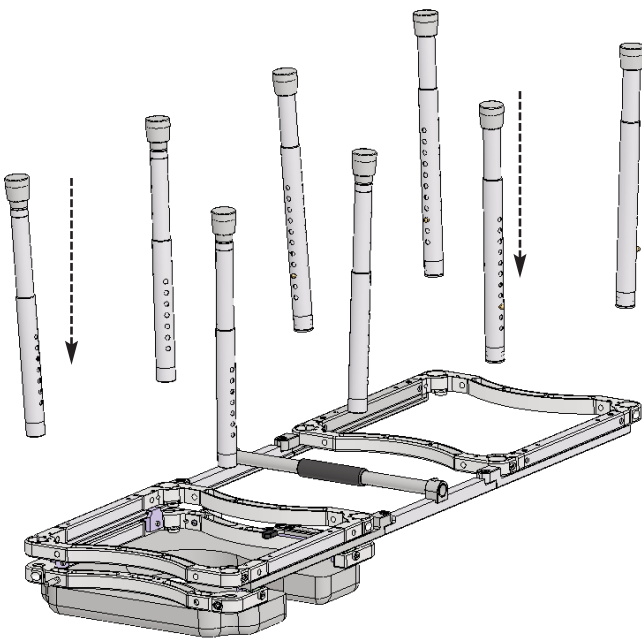

Figure 2
**C** Position the frames upside down and install the legs (Refer to Figure 2)
**D** Position the legs so that the brass buttons point outward (Making it easier for future leg height adjustment). Make sure that the legs slide "home" into the socket of the seat frame. Use the included ¼" Allen wrench to securely tighten the bolts located at the corners of the frame (Refer to Figures 2 & 3).